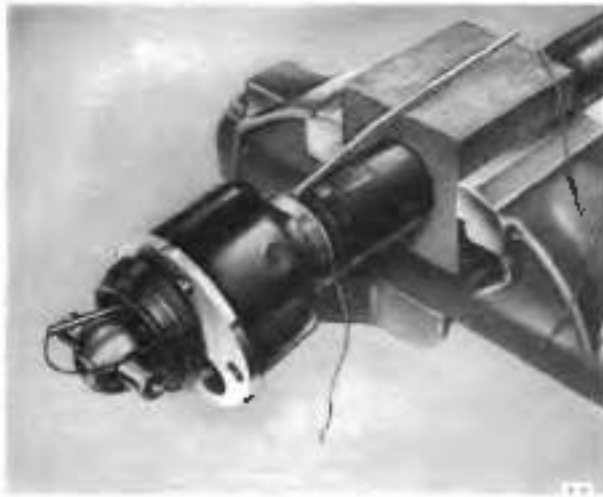

Fig. F9 Method of passing the cord through the inter-second position
- (viii) Pass the tube between the sealing boot and the propeller shaft, then pass the cord through the tube to form a loop around the sealing boot as shown in Figure F9. Remove the tube.